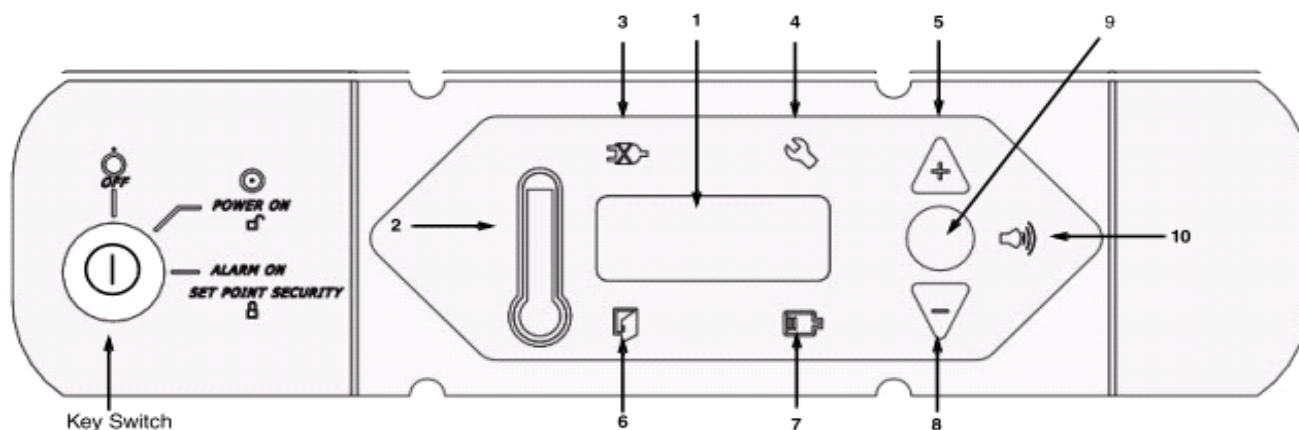

Figure 1. Laboratory Freezer Control Panel
- Unscrew 1/2" bolt until there is the required clearance between floor and head of bolt as shown in Figure 1
The control panel is located on the top right side of your freezer. You can use the three pushbuttons (#5, #8, and #9 in Figure 1) to change the temperature display (#1) or to adjust temperature and alarm setpoints. The thermometer display (#2) provides a quick visual indicator of current cabinet temperature and alarm conditions.
3. When simulated temperature exceeds the warm alarm setpoint, the alarm sounds and the alarm icon on the control panel illuminates (#10 in Figure 1).